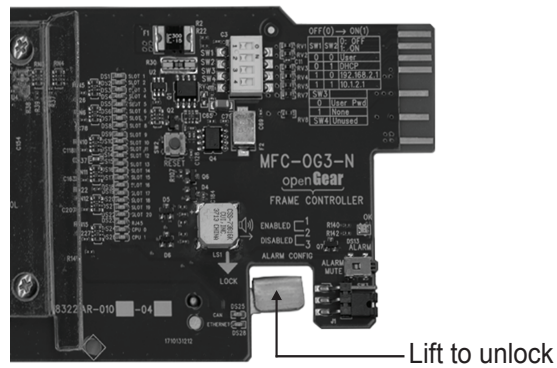

Figure 9 Frame Controller Card — Lock
4. Lift the lock before inserting the card into its slot. (**Figure 9**)